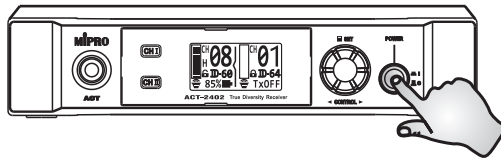

Fig. 7
1. Prior to powering on the receiver, ensure all transmitters are turned off and the mixer's volume control is set to a minimized setting. Press Power button ④ to power on. OLED screen ② will be lit. Fig. 7